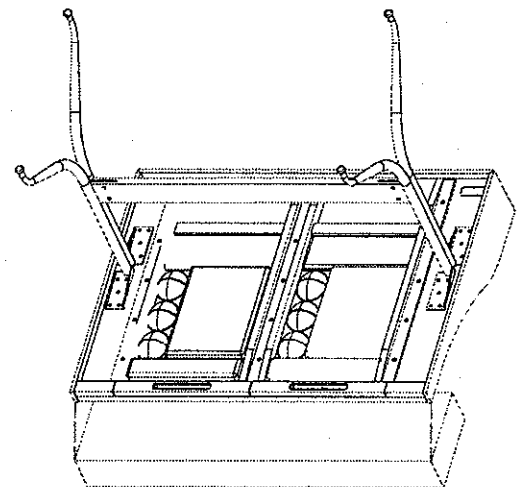

FIGURE 5
4. WHEN ASSEMBLING HOME DESK USE PACKAGING FILLER TO SUPPORT THE FRONT EDGE OF THE DESK TO PREVENT DAMAGE. SEE FIGURE 5.